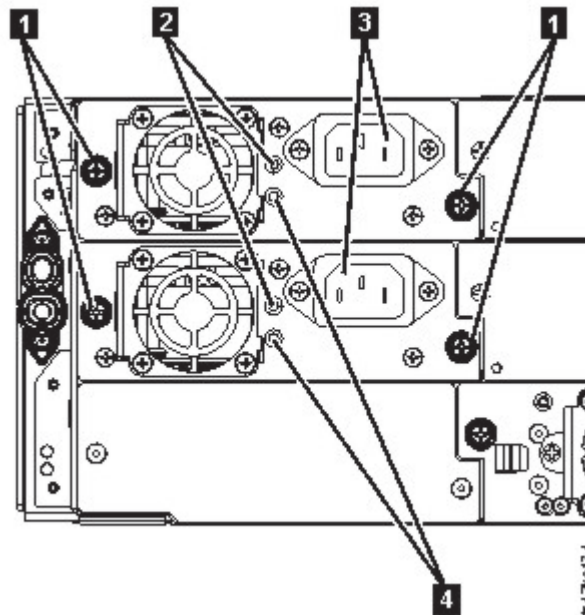

Figure 68. Power supplies
- The white (**2** in Figure 68 on page 118) LED is lit.
- The green (**4** in Figure 68 on page 118) LED is unlit.